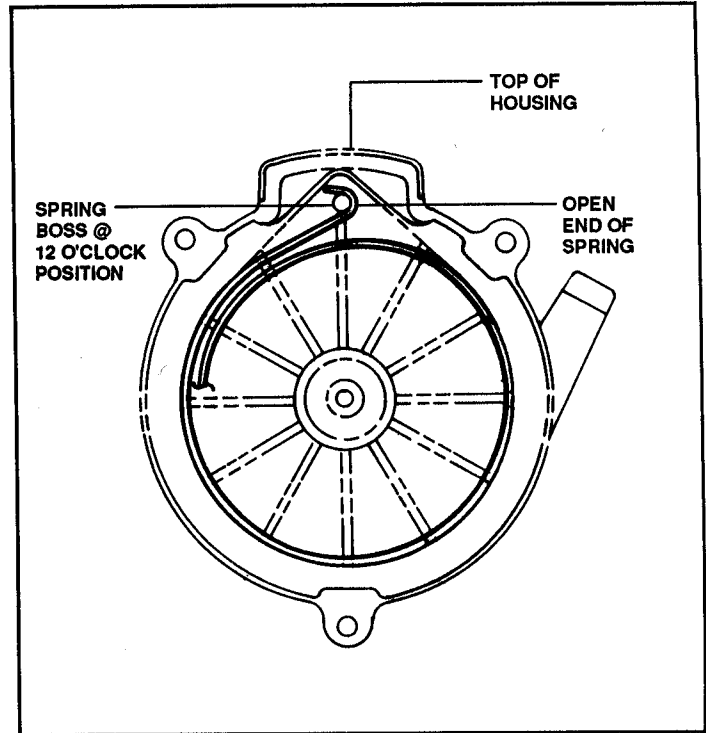

FIGURE 13
- Gently install spring into housing. Ensure that spring is flush on housing floor. The open end of the spring should go around the boss, located at the 12 o'clock position, and face away from the rope. See Figure 13.